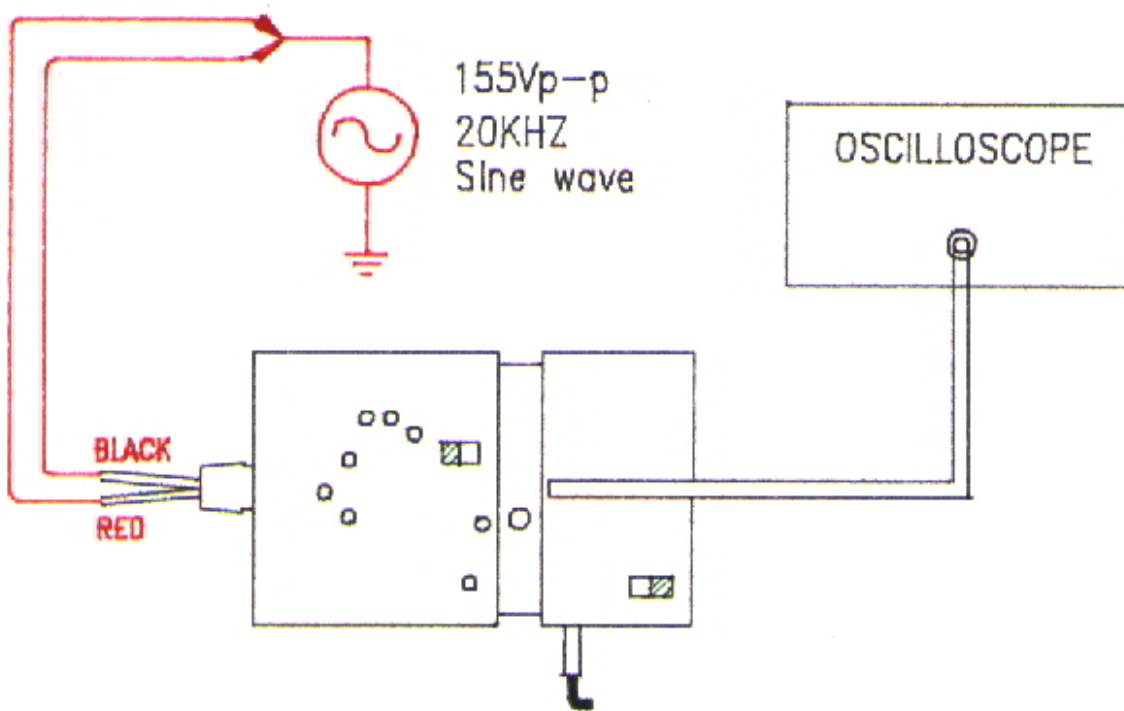

Fig. 12
- Referring to Fig. 12, connect output BNC to the oscilloscope has good grounding.